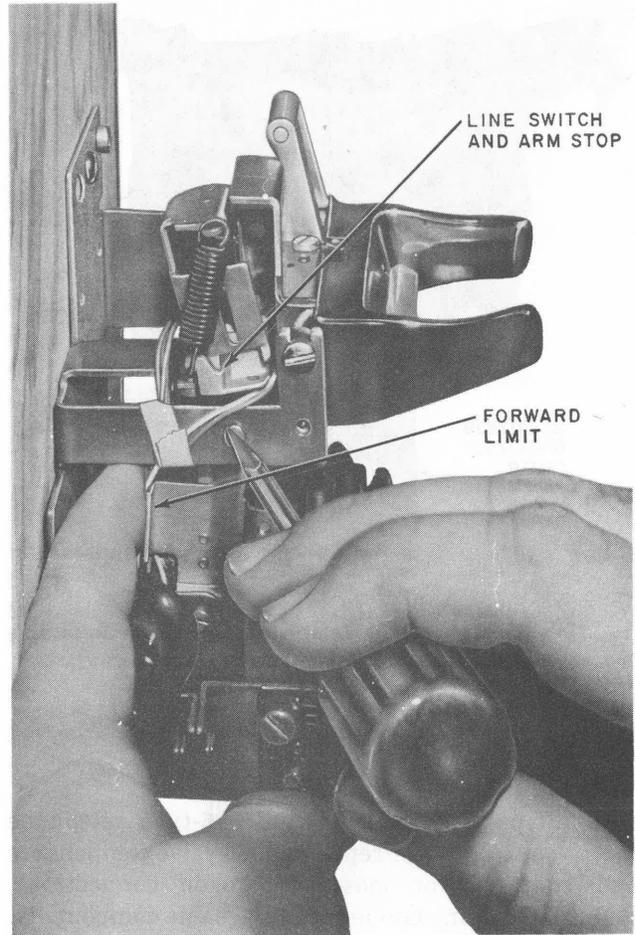

Fig. 13—D-180383 Kit of Parts, Installed on 526-Type Telephone Set Base
- (1) Remove switchhook assembly from telephone set base and replace with switchhook and plunger assembly from kit of parts. Mount the exclusion switch and switchhook and plunger assembly to the telephone set base making sure the line switch and arm assembly is against the stop (Fig. 13). Position the exclusion switch to its forward limit before tightening mounting screw so switch contact springs can be fully actuated.
- (2) Test exclusion switch for proper mechanical operation by pulling out on the line switch plunger.